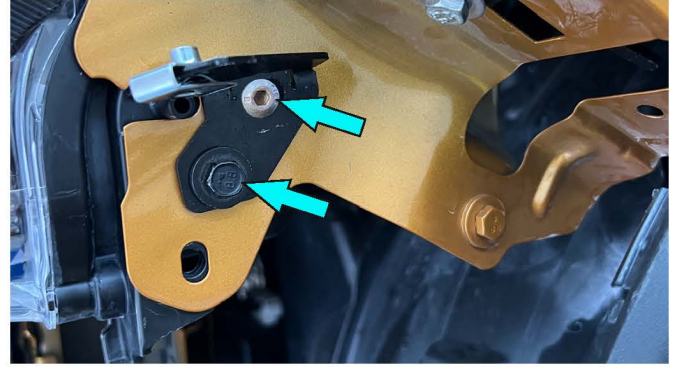

Fig.25
25. Install brackets between wing and light (item 8, 9) using OE bolts and screws M6x20 with washers 6 (item A, H) (fig.25).